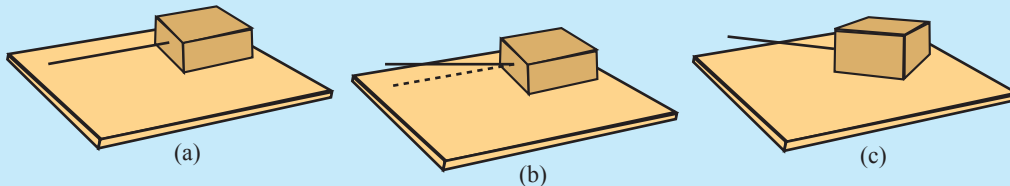

Figure 4.8 - The wooden block on the table viewed from the top
- Place the wooden block on the table as in figure 4.8 (a), and pull it to a side by the thread, keeping the thread horizontally. Observe the direction of motion of the wooden block.
- Then, change the direction with keeping the thread horizontally of thread as in figure 4.8(b) and draw. Observe the direction of motion of the wooden block.
You can observe that the wooden block moves in the direction of pull as in the figure 4.8(a) of the above activity. When the direction of pulling is changed as in figure 4.8(b), the direction of motion of the wooden block changes as shown in figure 4.8(c).